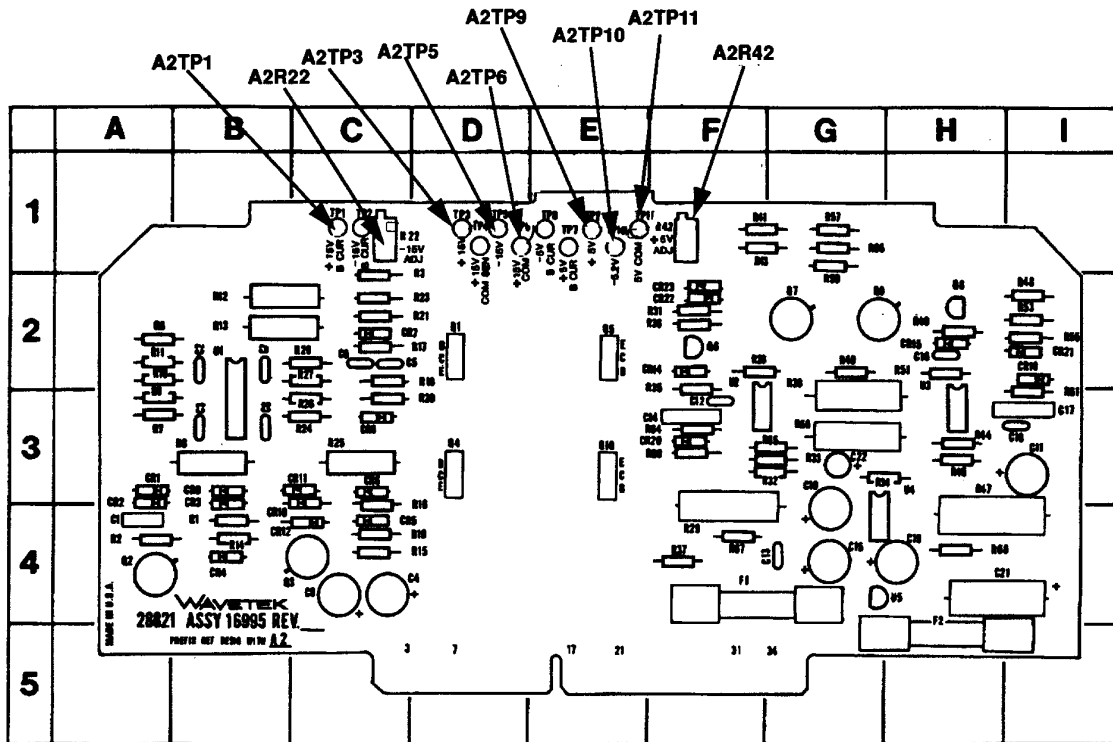

Figure 4. Power supply - component locations.
- (1) Press TI **POWER** switch to **OFF** position.
- (2) Disconnect TI from 115 V ac source.
- (3) Connect TI to autotransformer.
- (4) Set autotransformer power switch to **ON** position and adjust autotransformer controls for 115 V ac output.
- (5) Remove TI top.
- (6) Set TI **POWER** switch to **ON**.
- (7) Allow 30 minutes for TI to warm-up and stabilize.
- (8) Connect multimeter (dc mode) to test points (refer to figure 4 for test point locations) listed in table 5. If multimeter does not indicate within the limits listed in table 5, perform corresponding adjustments listed.